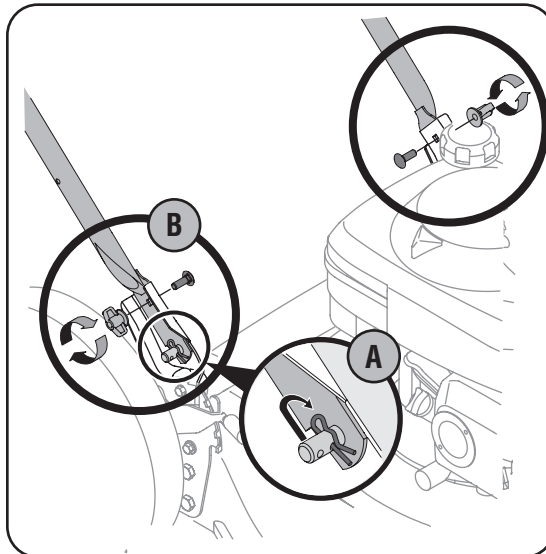

Figure 3-2
2. Locate hairpin clip in one hole on the weld pin on each side of lower handle. See Figure 3-2.